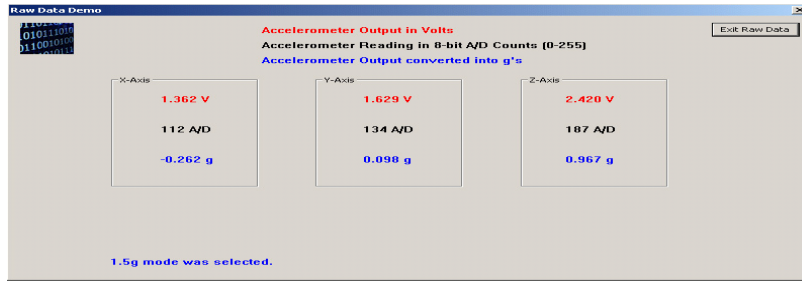

Figure 8-5. Raw Data Demonstration
4. Select the Raw Data applet from the Triax GUI main window. The Raw Data applet shows the X, Y, and Z axes as reported by the Remote Node. When the Remote Node is laying flat (component side up), the raw values should read approximately 0g for both the X and Y axes. However, the Z axis should read approximately 1g. As shown in Figure 8-5, when the Remote Node is moved, the values of the X, Y, and Z axes are updated on the Raw Data applet.